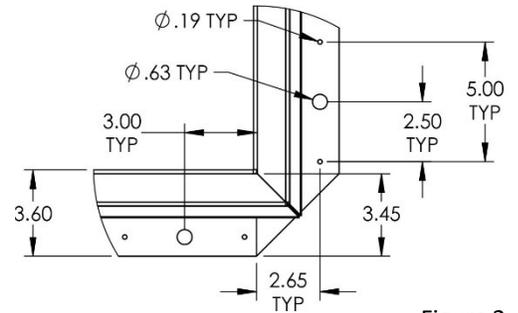

Figure 2
2. The roof hatch curb flange comes with two (2) types of mounting holes to accommodate multiple fastening methods practiced and accepted at a local level.
- a. Mark the pre-drilled diameter holes from the mounting flange through the roof deck or a concrete curb. Reference table below for hardware and placement. Drill for installation of anchors or other fasteners (provided by others). Bolt or otherwise fasten roof hatch curb flange to roof deck, figure 2.